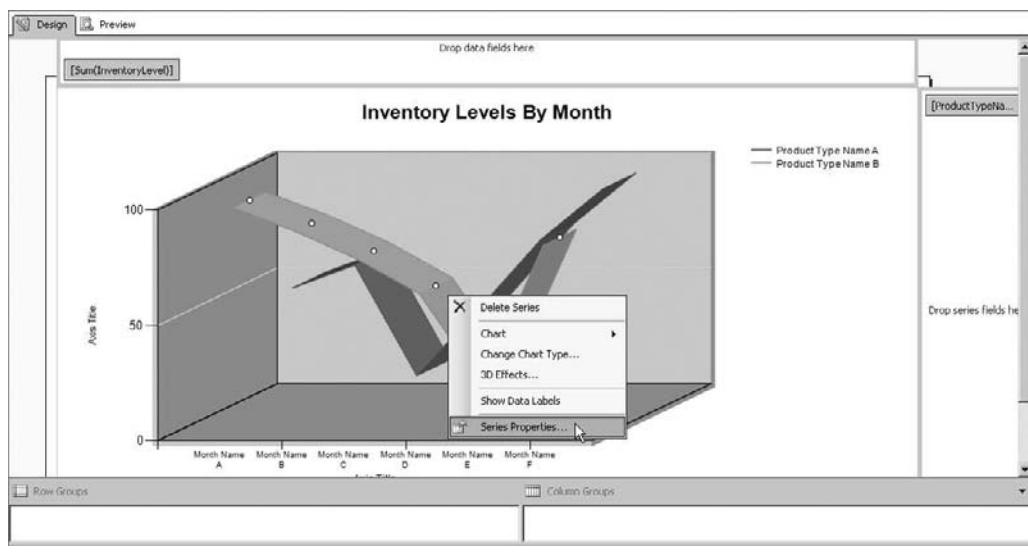

Figure 16-51 Modifying the series properties
50. Right-click one of the sample data lines, as shown in Figure 16-51.